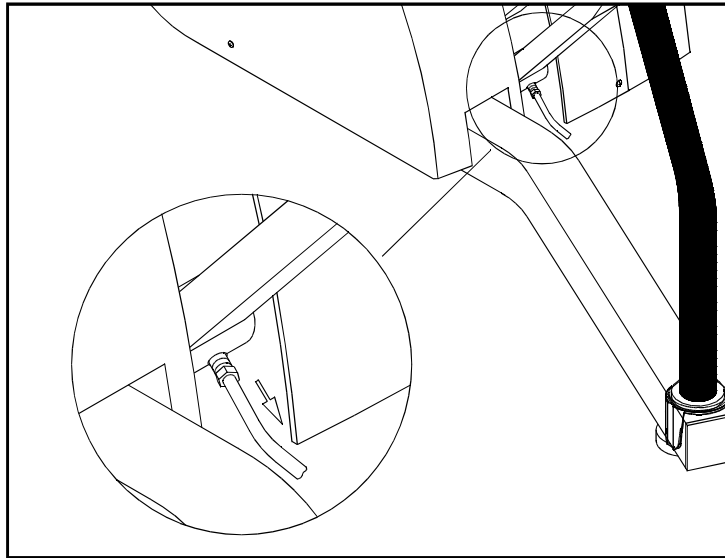

Fig.8
2. Then, remove the lubrication tube. (see fig.8)